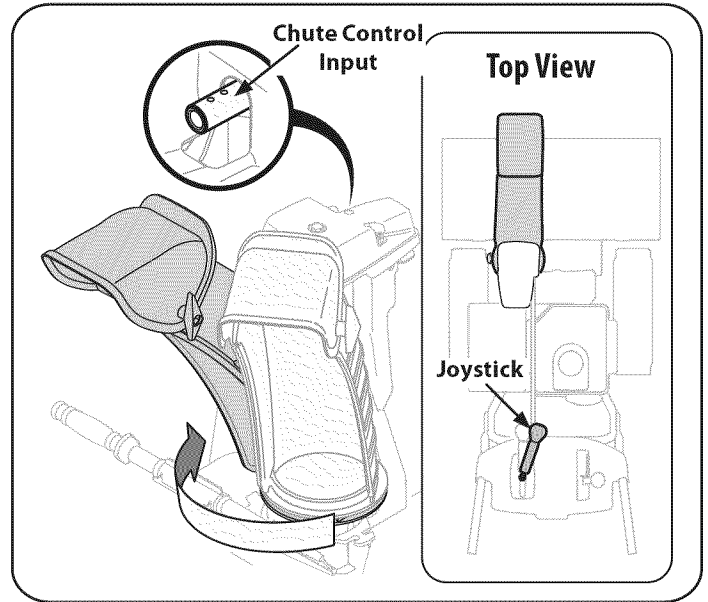

Figure 5
- Squeeze the trigger on the handle panel joystick and rotate the chute by hand to face forward. The holes in the chute control input will be facing up. See Figure 5.
**NOTE:** The joystick will be angled slightly to the right. See Figures 5 & 6.